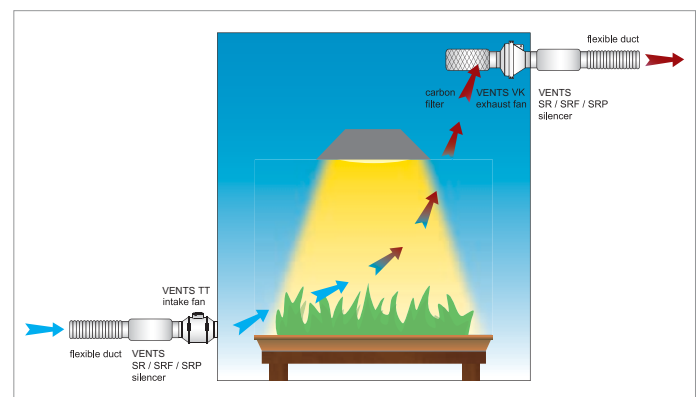

Fig. 15. Use of silencers (VENTS SR, SRF or SRP) and acoustic ducts (VENTS Isovent) considerably reduces the noise caused by airflow in ventilation system.
3. If the noise is a major concern, consider using acoustic flexible round ducting (VENTS ISOVENT insulated flexible ducting series). This can remove up to about a third of the noise generated by air turbulence. It's necessary to use at least one metre on both ends of the fan to get the full benefits. Using noise silencers, either rigid (VENTS SR series) or flexible (VENTS SRF or VENTS SRP series) is also a good way to reduce the noise (Fig.15). They can make it possible to run a ventilation system in a small domestic setting. Again, for full effect, fix a silencer on each end of your fan. This will help to reduce noise levels by up to a third.